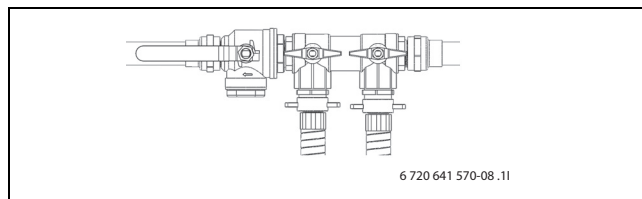

Fig. 27 Filling unit in normal position
- ▶ Turn the valves of the filling unit to normal position (→ Figure 27) and turn off the pump on the filling station.